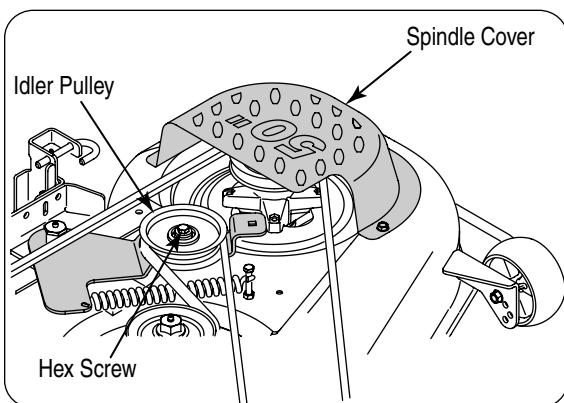

Figure 7-3
- Remove the spindle covers by removing the self-tapping screws that fasten them to the deck. See to Figure 7-3.
1. Loosen the hex screw fastening the idler pulley to the idler arm as necessary to slide the belt from between the idler pulley and idler arm. See Figure 7-3.